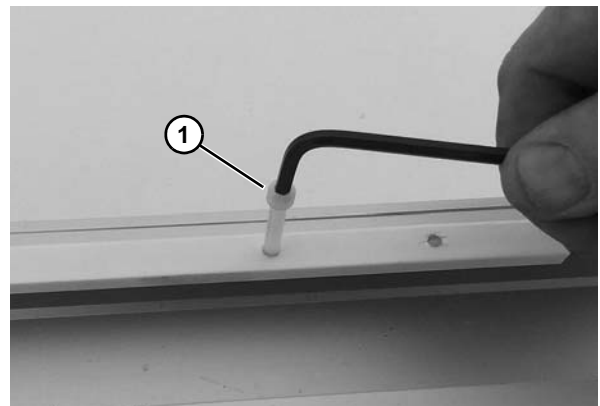

Figure 40
1. Insert the nylon screws (**Figure 40, item 1**) into the holes using a hex driver until the screw is flush with the bottom of the slide rail.